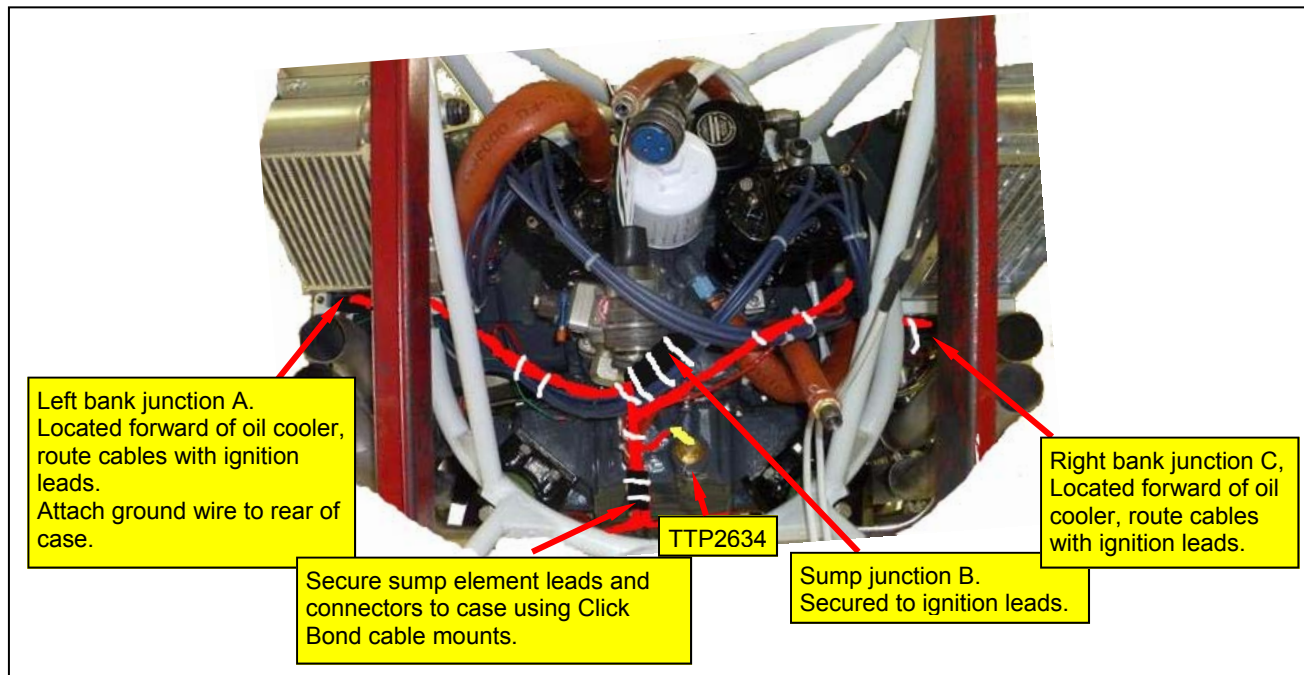

Figure 4-6 Harness routing
- c. Locate right bank junction C forward of the right oil cooler, secure to ignition leads using cable ties or mount on rear of baffling using cushioned clamp(s) (Table 2-1). This junction connects to the right cylinder elements (Figure 4-6).